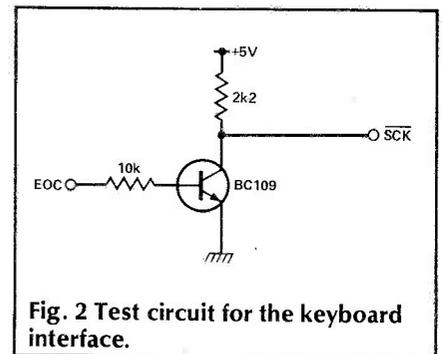

Fig. 2 Test circuit for the keyboard interface.
- 3) Connect EOC to SCK via the transistor circuit shown in Fig. 2.